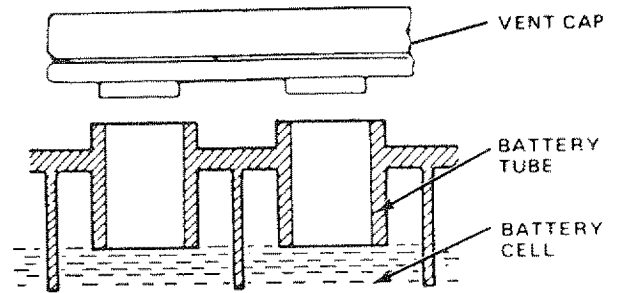

FIGURE 1
- b. Fill each cell with battery acid. Add the acid until it reaches the bottom of the battery vent tubes (Fig. 1). **NOTE: DO NOT OVERFILL. OVERFILLING WILL RESULT IN DAMAGE TO TRACTOR.**